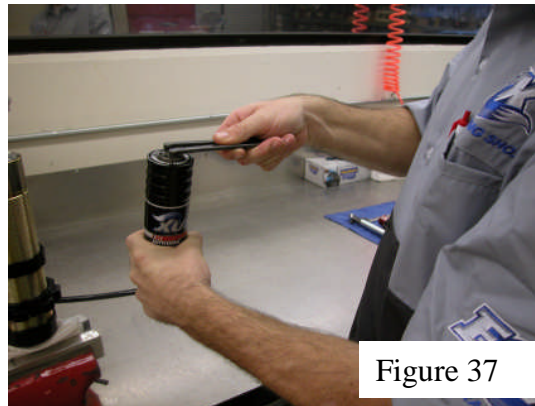

Figure 37
53. Install the mushroom shaped cap on the end of the reservoir. Tighten using pin spanner wrench. **(Figure 37)**